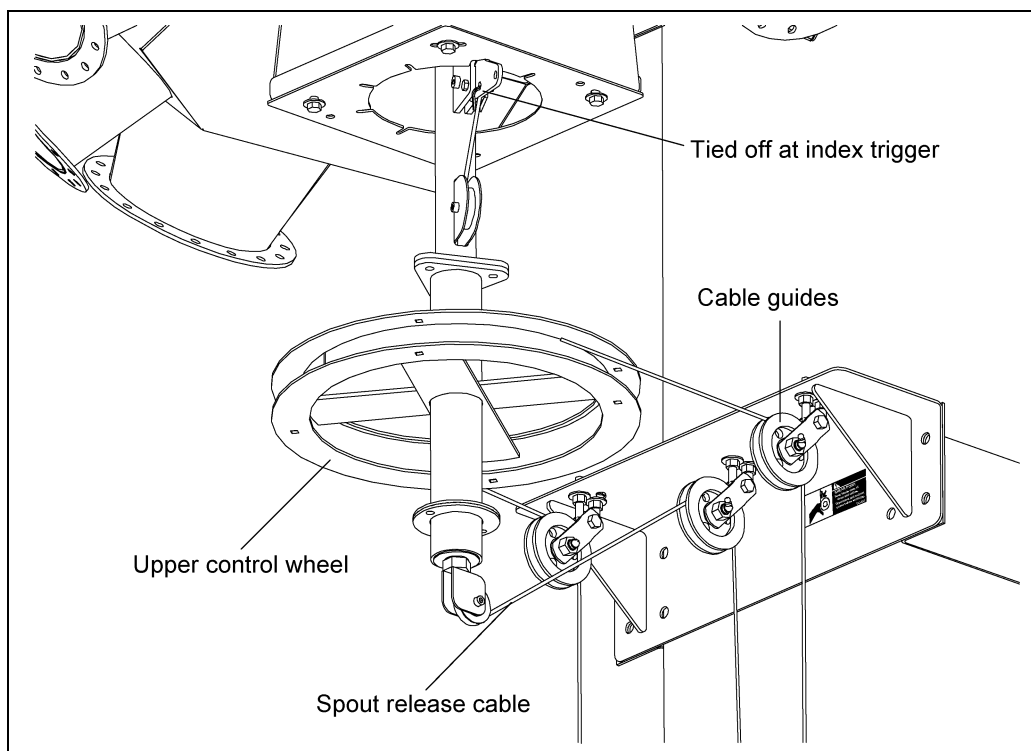
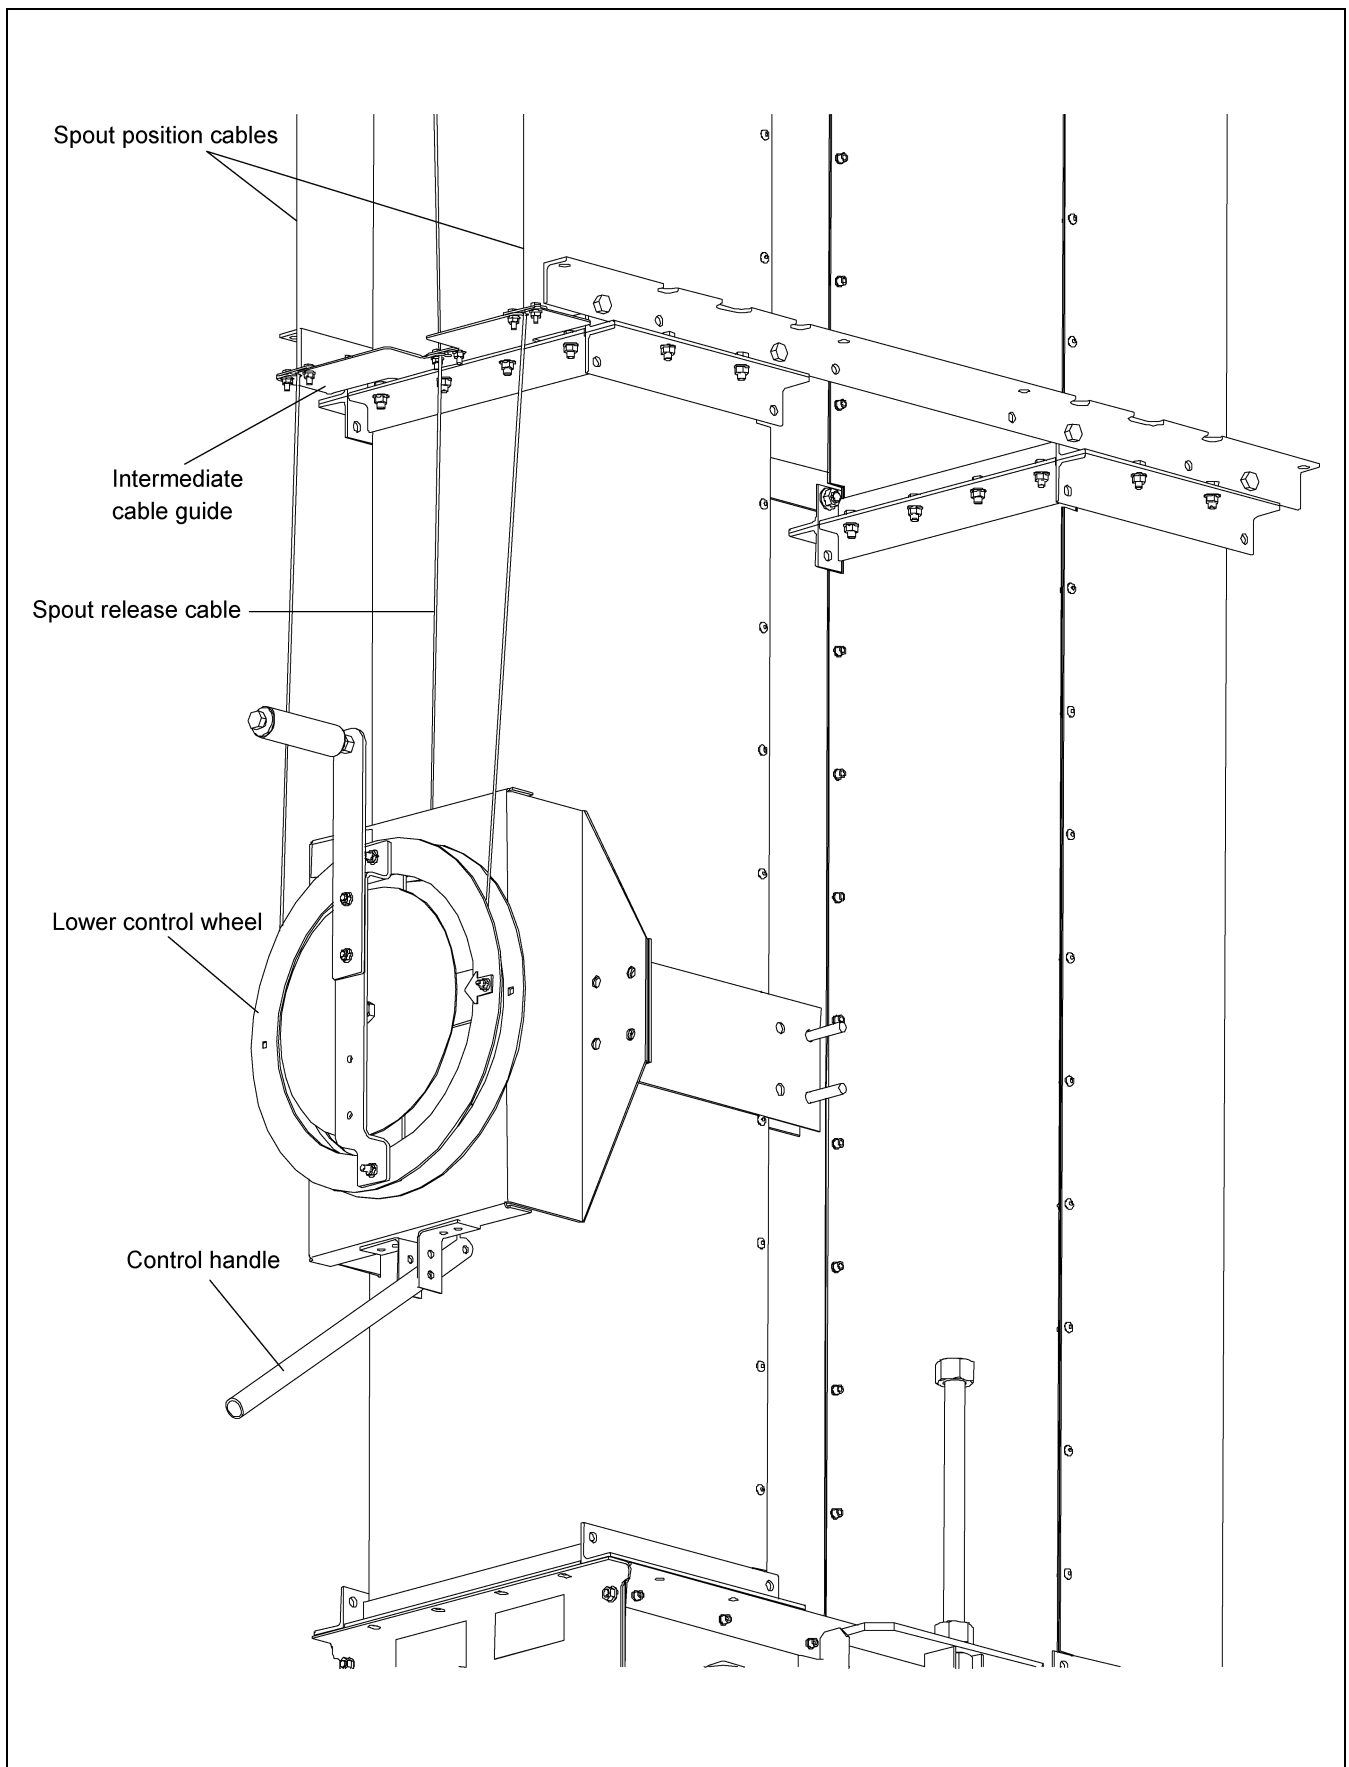
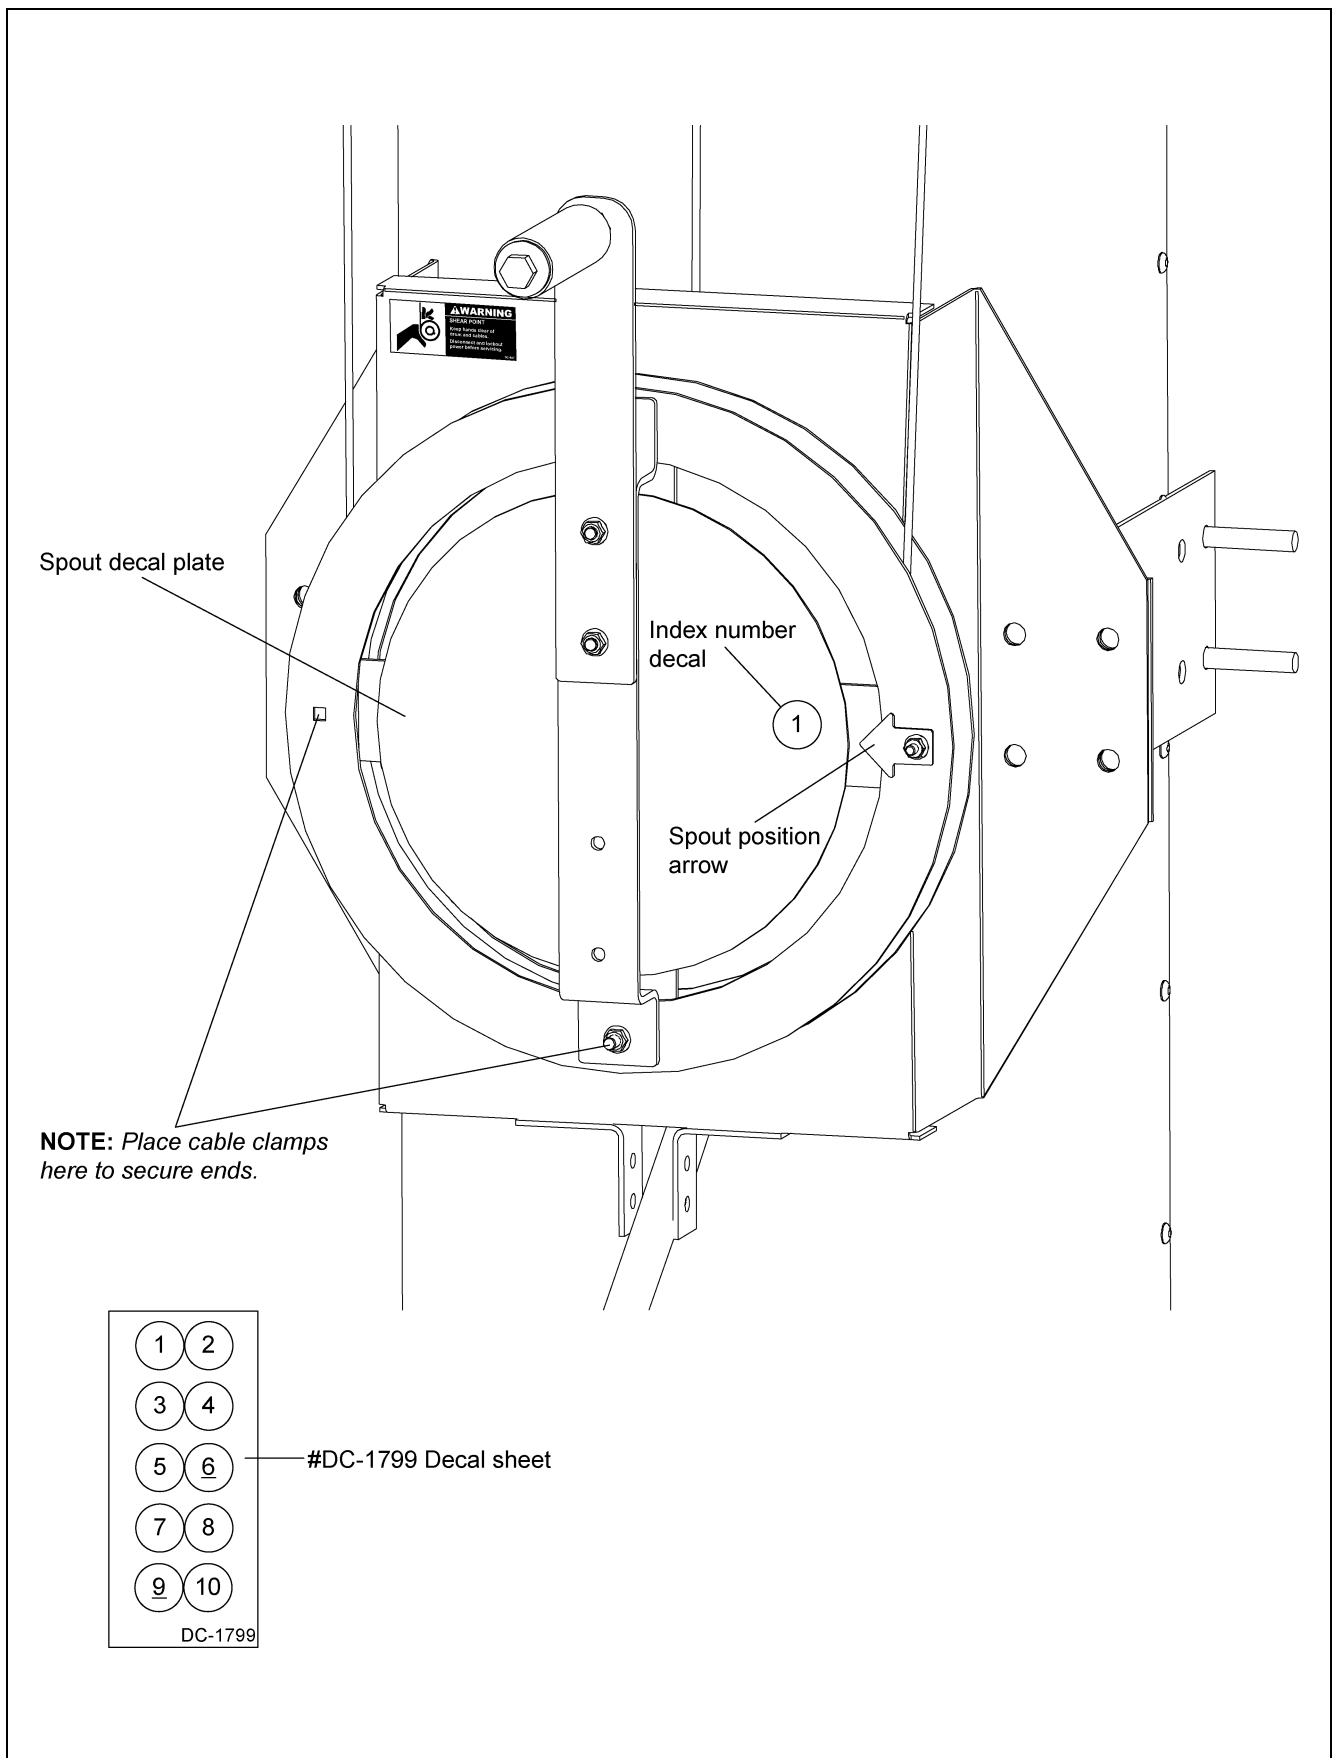

Figure 5J
Figure 5K
Figure 5L
Run both ends of the cable through the cable guides (See Figure 5J), continue down through the intermediate cable guides along trunking (See Figure 5K on Page 20), down to the lower cable wheel. Wrap each end of the cable 1 full wrap and then cable clamp both ends. (See Figure 5L on Page 21.)
This cable is used to release the index trigger so that the spout can be turned. This cable should be able to reach from the control handle at the bottom side of the lower control wheel (See Figure 5K on Page 20), up over the center pulley of the cable guide assembly, under the connector pulley assembly and tie off at the index trigger. (See Figure 5J.) Allow some extra cable to be able to tie off at both ends.
2. Using the index number decal (decal part #DC-1799), peel off one of the numbers (numbered 1 through 10) and place on the spout decal plate in front of the spout position arrow. (See Figure 5L on Page 21.)